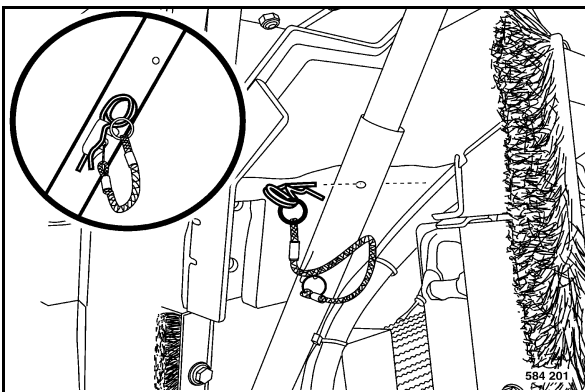

Fig. 152
- Open the engine hood (Fig. 152) completely and secure it.